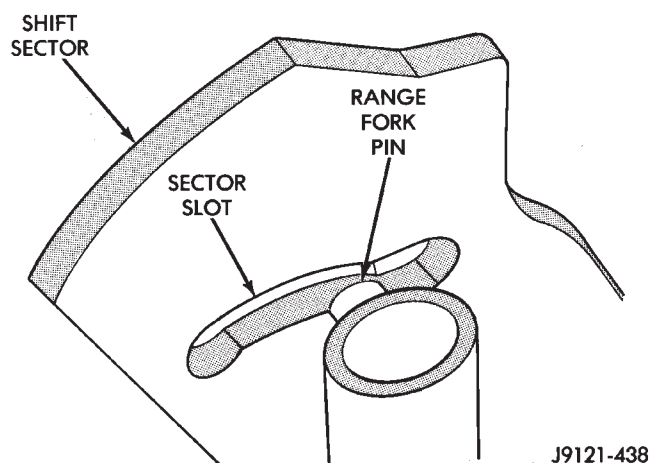

Fig. 44 Seating Range Fork In Sector
- (27) Engage range fork pin in sector slot (Fig. 44).
- (28) If drive sprocket bearings are to be replaced, remove and install them as follows: